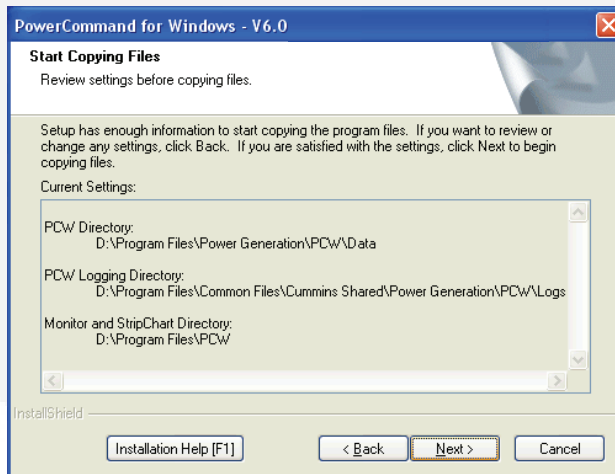

FIGURE 2-6. INSTALL – CURRENT SETTINGS
7. At the *Start Copying Files* window, accept the default directory path (recommended) or click on the **Back** button to edit the desired folder location. Then click on the **Next** button to accept the directory settings and proceed. Figure 2-6.